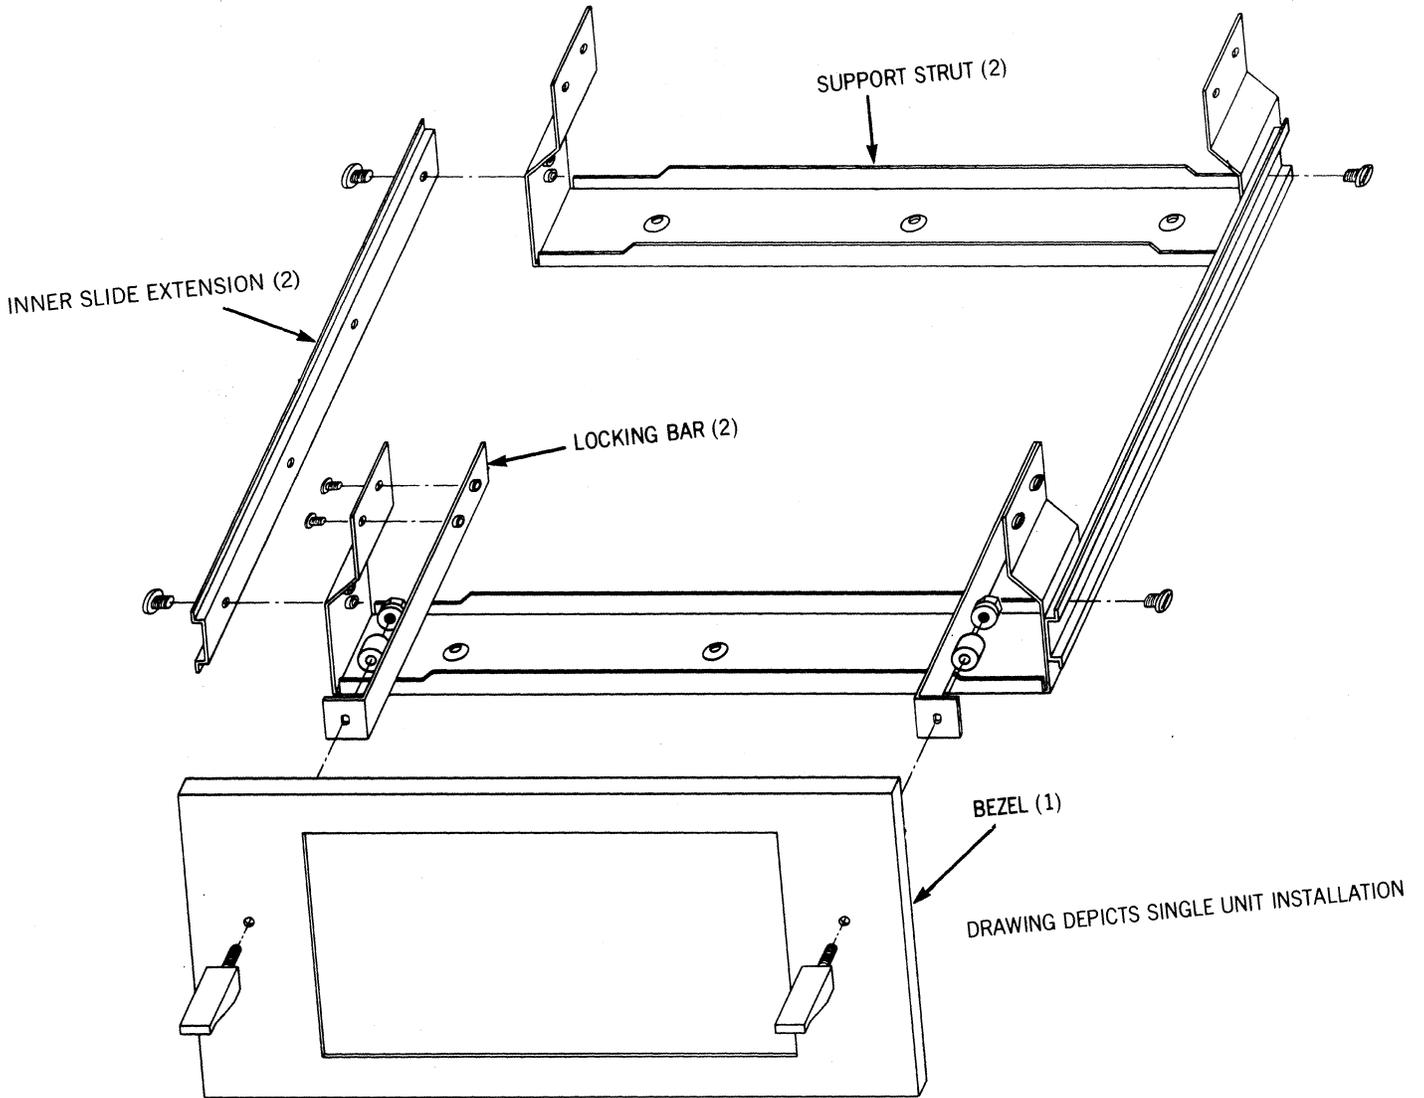

Fig. 8—Rack Slide Assembly Installation
- (a) Attach inner extensions of the three section slides to the support struts as shown (Fig. 8), using four #10-32 x  $\frac{1}{4}$  screws. Note that each end of the support struts has two threaded inserts for this purpose. When rack mounting a single disk drive unit, use only the lower inserts for attaching the slide extensions. When mounting a dual disk drive unit, only the upper ones are used.